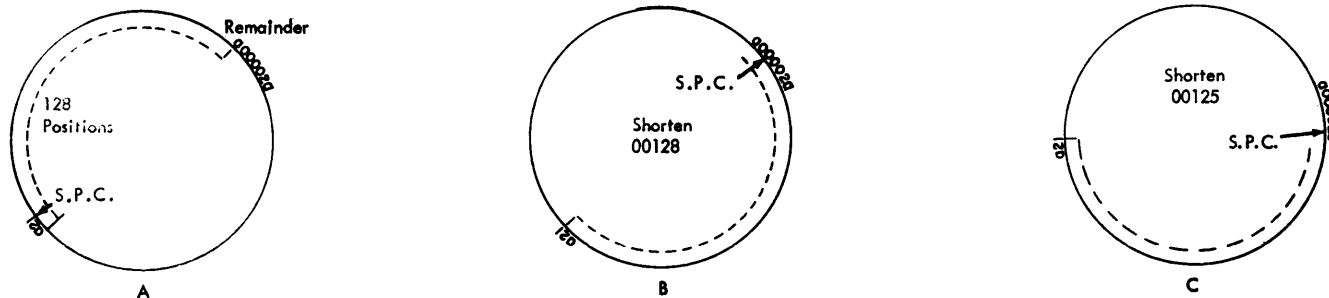

Figure 27. Shorten Instruction
*Description:* The shorten instruction shifts the starting point counter of central storage to the left. The number of positions moved is specified by the address part of the instruction. Because the field in storage consists of those characters between the position of the starting point counter and the storage mark, the movement of the starting point counter to the left has the effect of removing characters from the right end of the storage field (Figure 27).